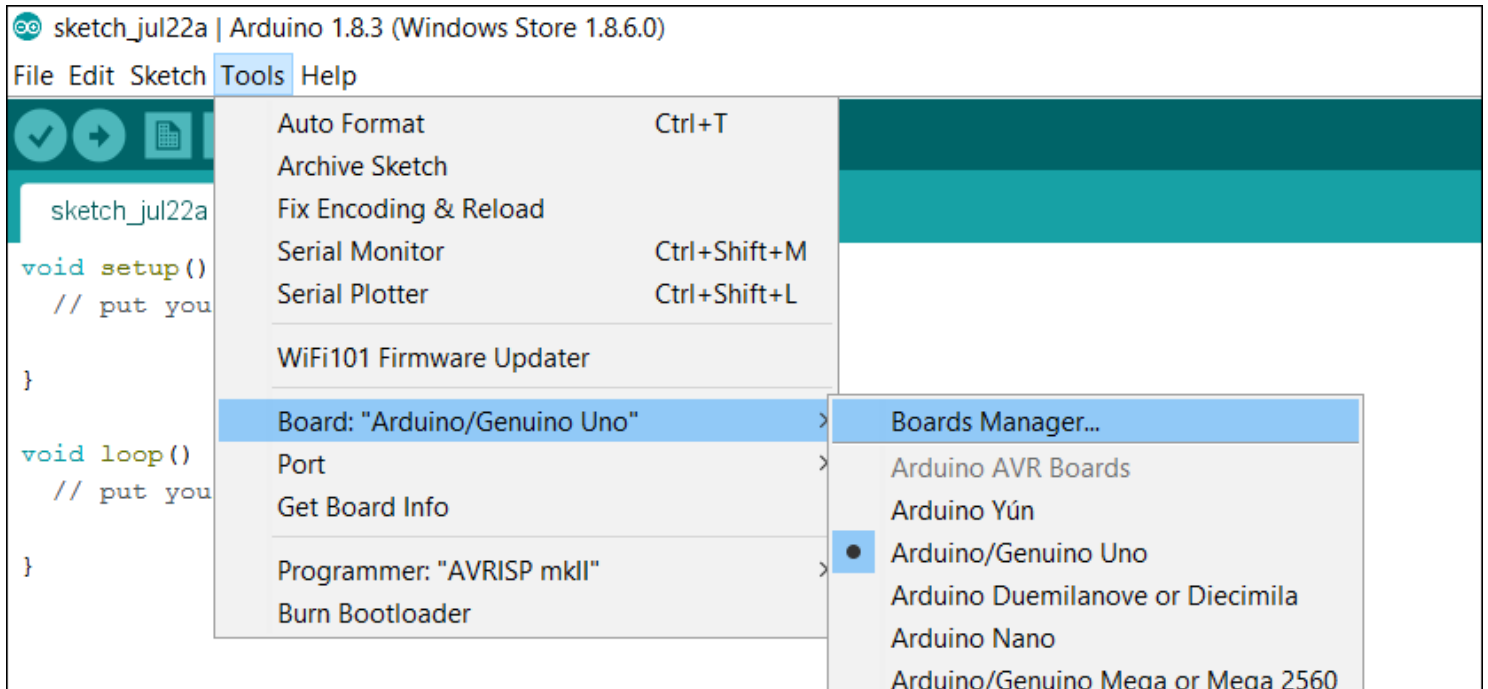

Figure 2-4 Arduino IDE, Boards Manager Menu
4) 关闭上一个对话框后,请打开Tools / Boards / Boards Manager菜单, 如Figure 2-4所示.